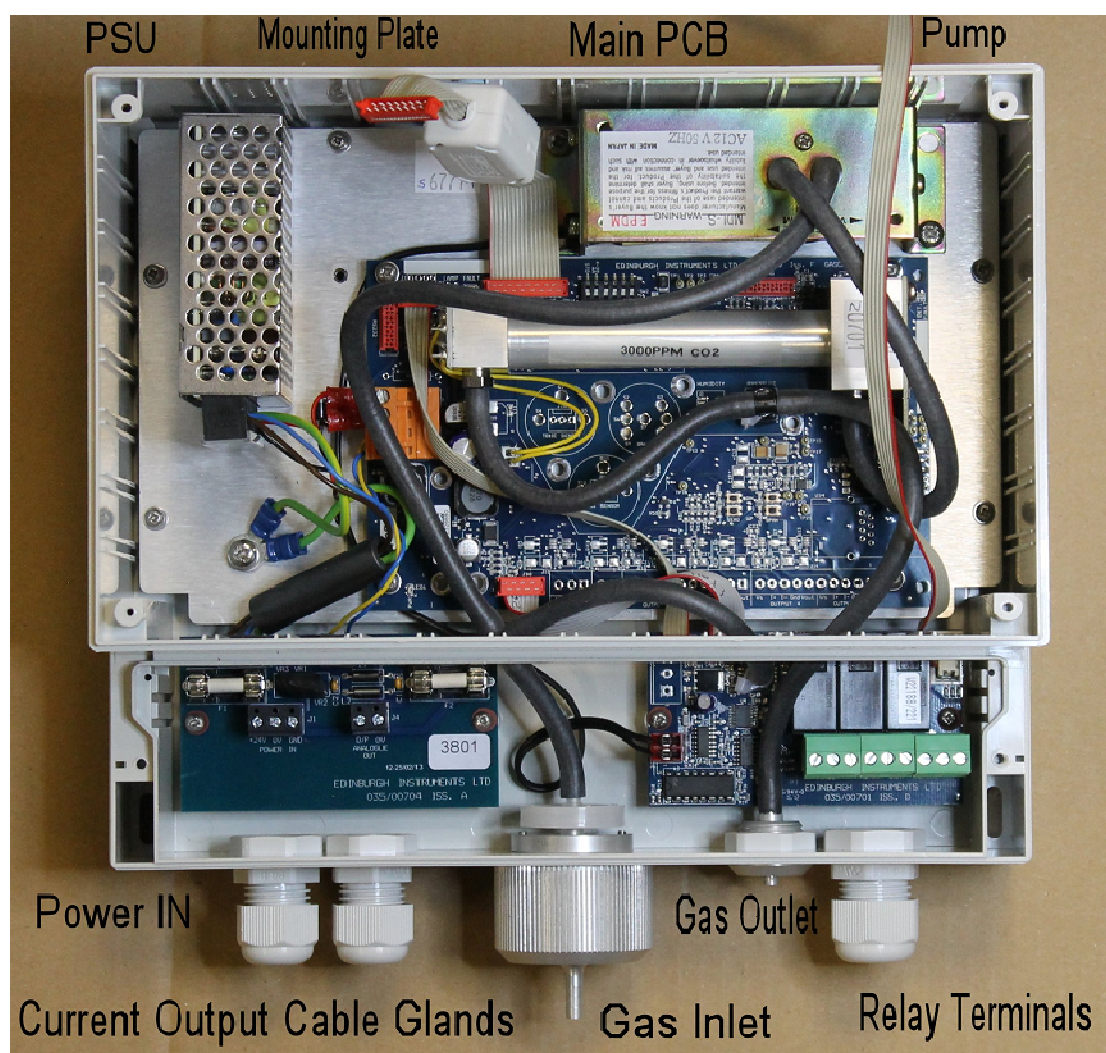

Figure 19: Guardian NGDC Internal View
- 9 i) Unscrew the knurled gas inlet/filter housing (Shown in Figure 19) to access to the particle filter capsule
Removal of the front panel allows access to the other PCB's sufficient to perform most service operations (primary fuse replacement, pump replacement, secondary filter replacement). For more major repairs, it may be necessary to remove the main mounting plate (see Figure 19).
There are three fuses in the Guardian NGDC; one is located on the main PCB (see Figure 19) and two on the Power supply PCB. When replacing the power supply PCB fuses, use only 20 mm, anti-surge fuses (indicated by the character T before or after the fuse rating). Other faster fuses may blow during switch-on. Fuse details
The pump is located on the Mounting Plate (Figure 19) and may be replaced as follows: